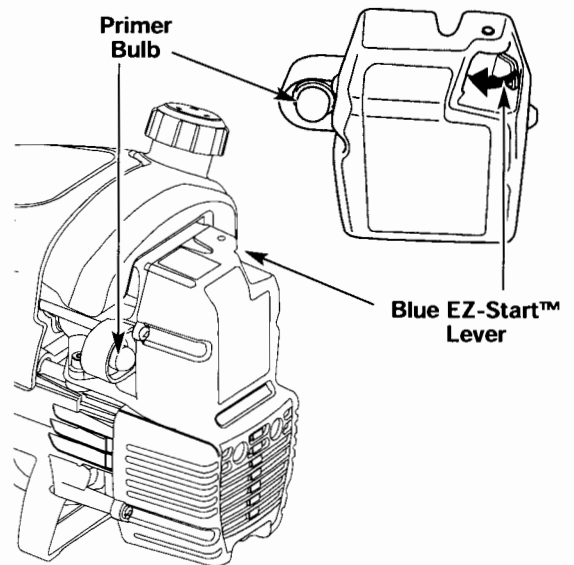

Fig. 7
2. Fully press and release the primer bulb 10 times, slowly. Some amount of fuel should be visible in the primer bulb and fuel lines (Fig. 7). If you can't see fuel in the bulb, press and release the bulb as many times as it takes before you can see fuel in it.
3. Push the Blue EZ-Start™ Lever towards the primer bulb until it clicks and locks into place (Fig. 7).